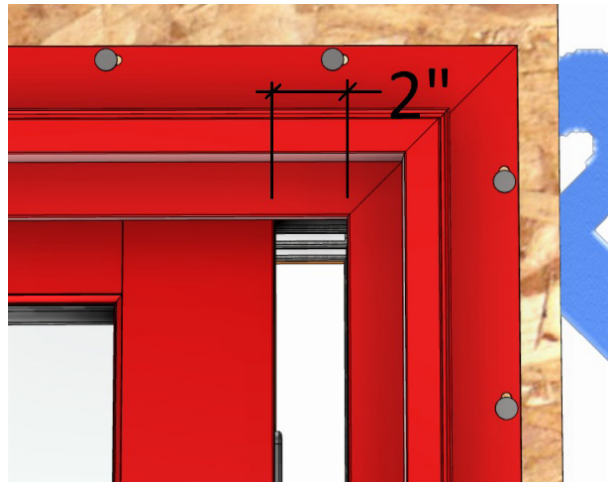

Fig P5
- Place the panel approximately 2" from the jamb to ensure the panel can be lifted into place without interfering with the corner key. (Fig. P5)